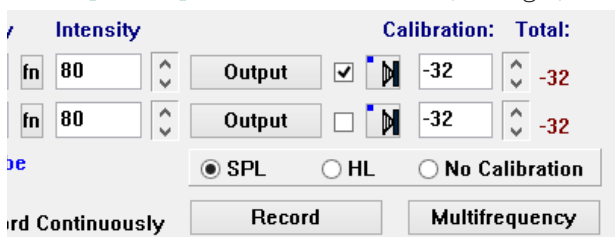

Fig.6 - Control panel options, for insert earphones.
- Enable the check box to the right of the **[OUTPUT]** button for channel 1 (see Fig.6).